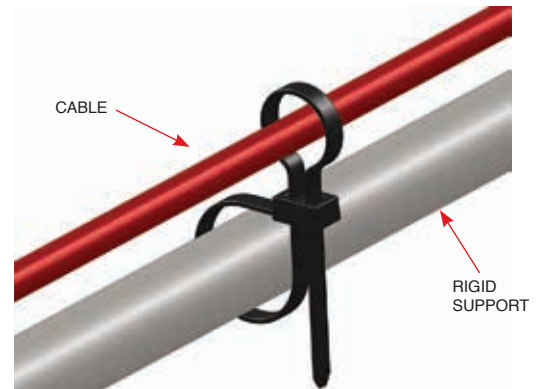

FIGURE 5-12
- If attachment points are not available for P-Clamps, a double-loop cable tie (Part No. 440737) is acceptable for support and separation between cables and the securing point. **Note: Cables should not be supported by hydraulic hoses.** See Figure 5-12.